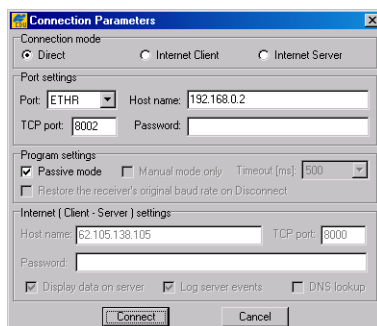

Figure 1-8. Ethernet Connection Parameters
10. Click **Connect** (Figure 1-8 on page 1-17).
12. Click **Connect** (Figure 1-8 on page 1-17).